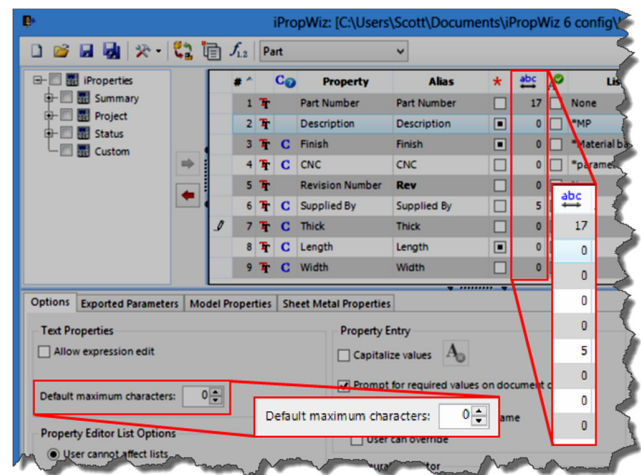

Figure 5: Maximum Character Settings
- Maximum number of characters. (Figure 5)